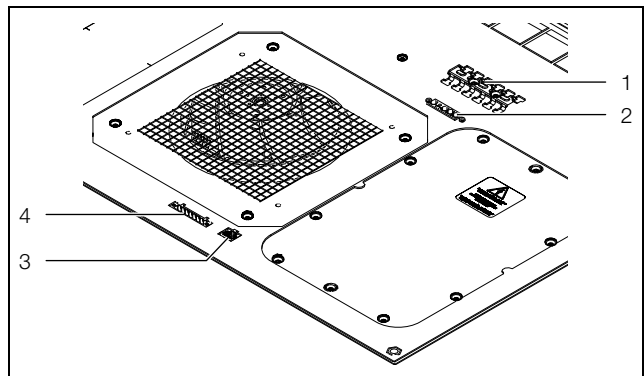

Fig. 13: Fasteners at the bottom of the roof-mounted cooling unit
- The cable shield can make contact with the T-rail (fig. 13, item 1).